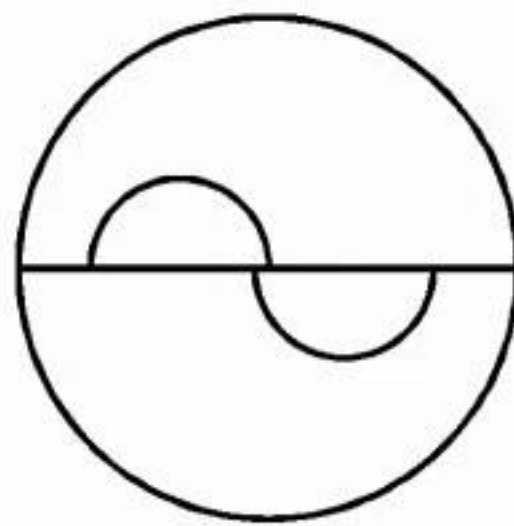

Fig. 5
- C. Fluorescence belt is too narrow. It is because tears has been dry. So the measured intraocular pressure is lower than the practical one. Let patient blink his eye for some times. Then measure again(Fig. 5).